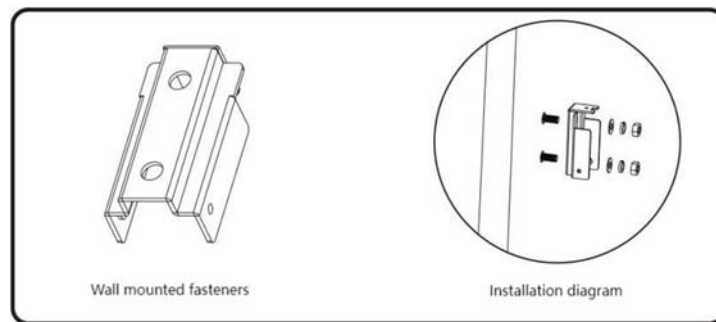

Figure 1-1
- 2、 Fix the fixed parts directly to the wall with expansion screws or ordinary screws for the convenience of subsequent parts installation and fixation, as shown in Figure 1-1.